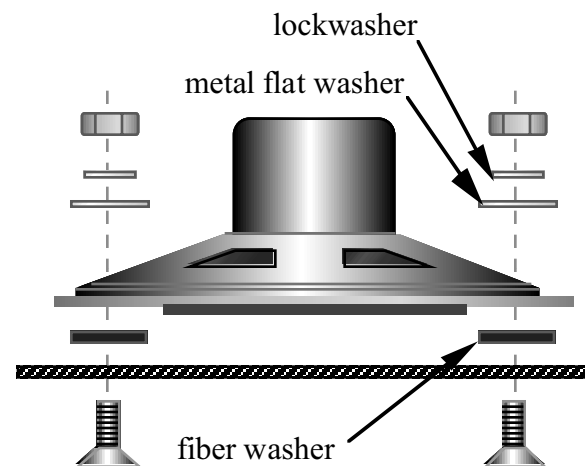

Figure 10-2
- ☐ Secure the speaker to the top cover using four 5/16" (8 mm) flat-head screws, #4 fiber washers (black), #4 metal flat washers, #4 internal-tooth lock washers, and 4-40 nuts (Figure 10-2). The fiber washers go between the speaker and the top cover. **Do not over-tighten the nuts, as this can flex the speaker frame, causing damage to the speaker and/or distorted audio.**